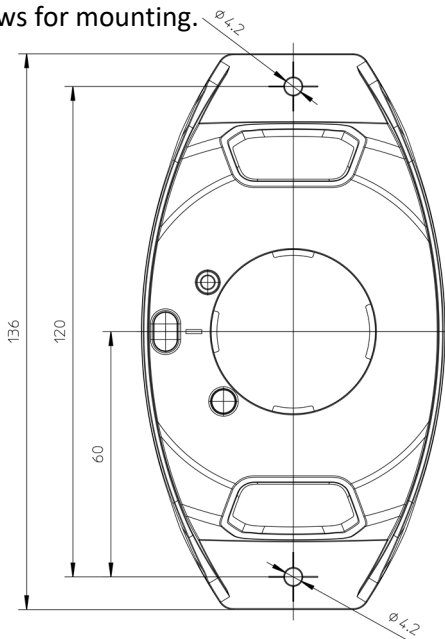

FIGURE 19: ROOF MOUNT INSTALLATION STEP 2 (MEASURE AND MARK THE INSTALLATION HOLES)
Step 2: Measure and mark the installation holes in accordance with the drawing showed in Figure 19. Use the enclosed two stainless A4 screws for mounting.